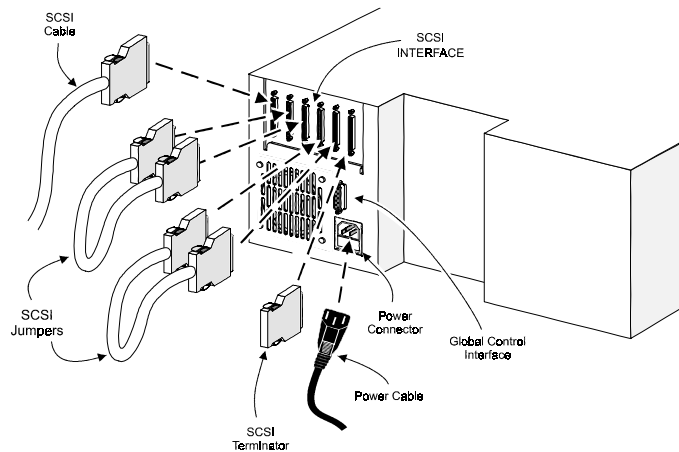

Figure 2-3 Rear Panel Connectors, Terminator and Cables
Refer to Figure 2-3. If the Base Module is to be installed alone, that is, not as part of a multi-module subsystem, the connections required are the SCSI connection to the host, and the AC power connection. The Global Control interface connector is used only when the module is used in combination with other modules as part of a DLT LibraryXpress subsystem. If the Module is to be added to an existing DLT LibraryXpress subsystem, please refer to the DLT LibraryXpress System Installation and User Manual for information on cabling.
A terminator of the proper type (single-ended or differential) must be installed on each unused connector of each bus, as explained below in the section headed 'Interface Cable and Terminator Installation. Figure 2-3 shows the SCSI cable, connectors and bus terminator used on the module.
3. Determine whether the module's elements (DLT 1, DLT 2, Library) are to be used with separate SCSI buses or daisy-chained on a single SCSI bus. (Refer to figure 2-3.) If daisy-chained, make the necessary connections among the connectors on the module. That is, right connector of Library to the left connector of DLT1, and if there are two drives, the right connector of DLT 1 to the left connector of DLT 2. This leaves you with the left Library connector as an incoming SCSI connector, and the right DLT 2 (or DLT 1) connector as an outgoing SCSI connector.